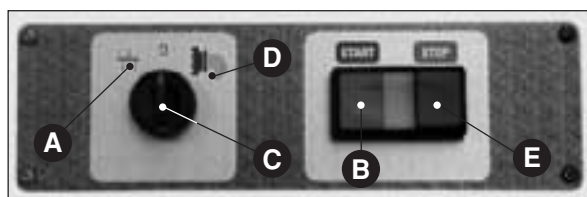

Fig. 11
- stop the machine by switching the selector to the “0” position (**Fig. 11 C**) and then turn it on the kneading position **III** (**Fig. 11 A**) for 10-15 seconds so that the pressure on the drawplate, caused by the product itself, is eliminated;
- switch the selector to “0” (**Fig. 11 C**) or push the Stop button (**Fig. 11 E**);
- In the "0" position (Fig. 11 C) all the elements of the machine have to stop; in the drawplate position (Fig. 11 D) the mixer turns in one direction; the Archimedean screw has to turn in the same direction (check from the small holes of the cover); in the mixing position (Fig. 11 A) all the organs have to turn the other way.